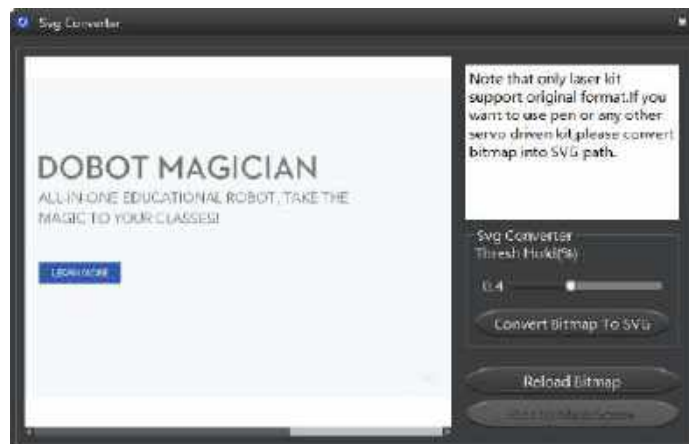

Figure 5.43 Convert an image to SVG
- Click **Open** to import an image file such as BMP, JPEG, or PNG to convert this image to its corresponding SVG file that the DobotStudio supports. Once this image is imported, the **SVG Converter** dialog box is displayed, as shown in Figure 5.43. In this dialog box, drag the slider to set the black and white threshold, and click **Convert Bitmap To SVG** to perform the conversion, and then click **Plot to Main Scene** to display the converted SVG file on the annular area of the **Write & Draw** page.